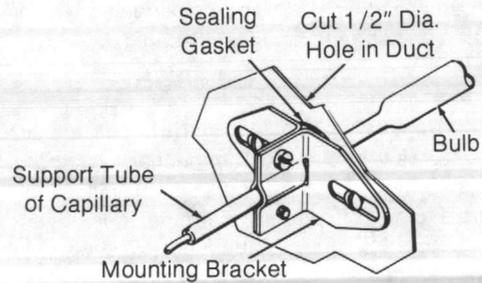

**Figure 2. Field Supplied Duct Hole Cover Plate**
2. Fabricate a cover as shown in Figure 2.